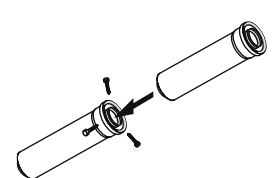

Fig. 10
6. Connect the terminal pipe to starter bend (ensuring components are pushed 'fully home'. Secure the PVC joints of bend to the terminal pipe with the three (3) self tapping screws supplied with the component as shown in Fig. 10.
1. Follow the installation method as described for the DIRECT HORIZONTAL FLUE above. Use FFPPPIPE1000 and FFPPBEND90 / FFPPBEND45 components to extend the installation horizontally as required. Note that PVC joints **MUST** be secured with the three (3) self tapping screws supplied with the component as shown in Fig. 10.